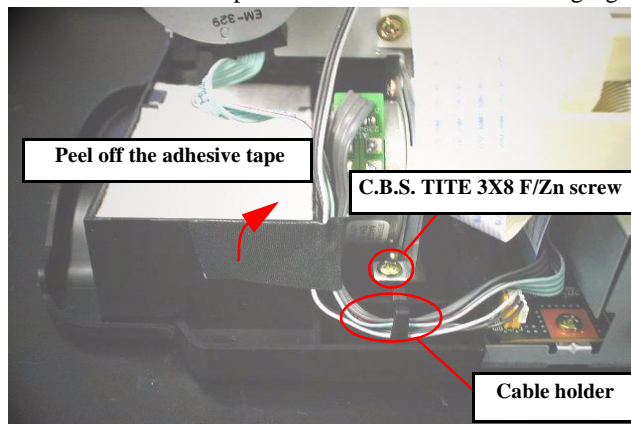

Figure 4-17. Removing one screws & cables at the back side of the printer
- After assembling the Waste drain ink pad unit, be sure to set the following three cables in the cable hook in the Waste drain ink pad unit. Refer to the Figure 4-17.